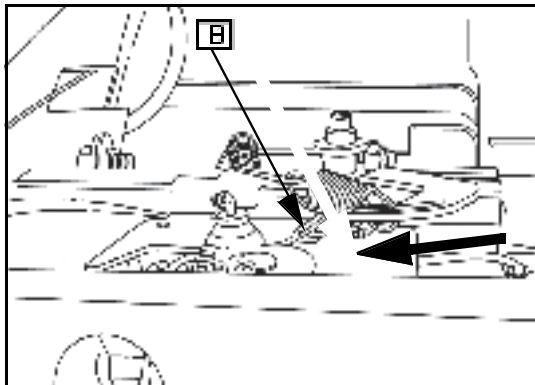

Fig. 43
3. Move the remote to the **STOP** position. The engine governor control lever tab should be contacting the stop switch tang ([B] Fig. 43).